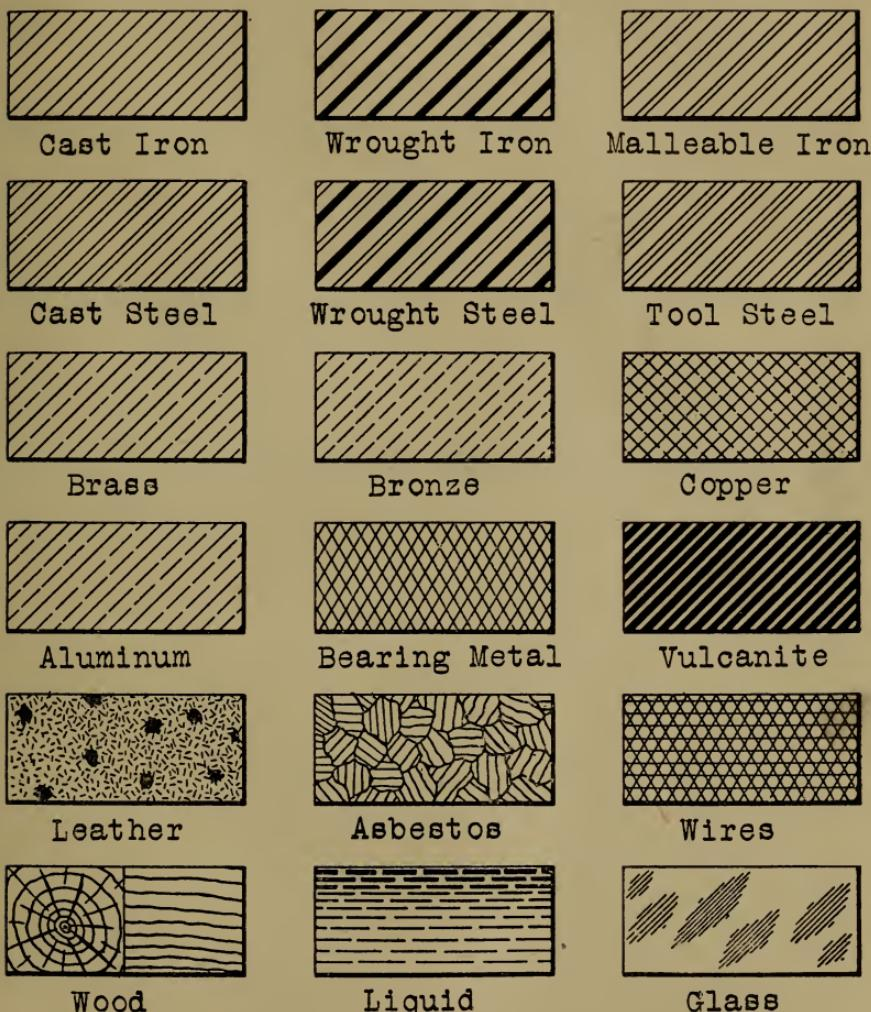

Fig. 20. Conventional Cross-hatchings.
2. CROSS-HATCHING. In a section it is often necessary to cut through a portion of material, the character of which is indicated by the spacing and thickness of lines as per Fig. 20. The slant is 45 degrees, unless otherwise indicated.